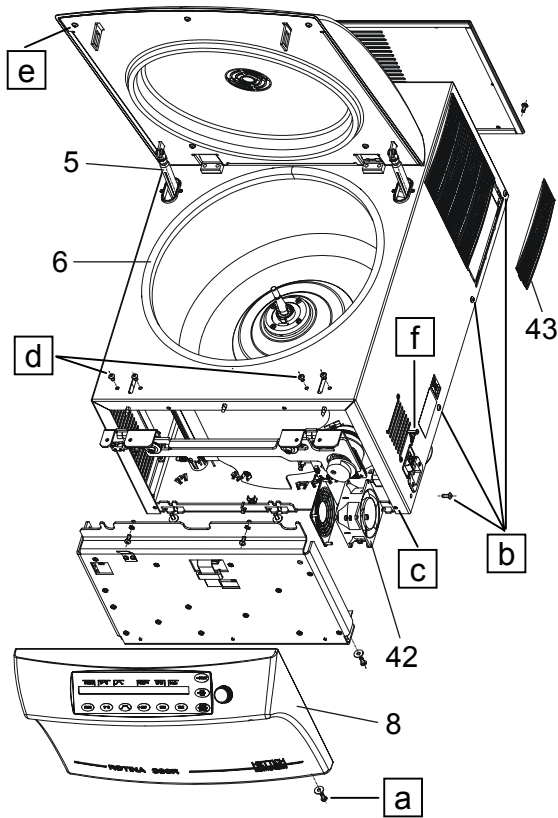

Fig. 7
- Unscrew the 3 screws (pg. 78, Fig. 3, a ; pg. 79, Fig. 7, a) on the lower part of the front panel.
- Unscrew the fastening screws of the upper part of the centrifuge housing. 4 screws (pg. 78, Fig. 3, b ; pg. 79, Fig. 7, b) each on the left and right side of the upper part of the housing and 1 screw (pg. 78, Fig. 3, c ; pg. 79, Fig. 7, c) each left and right on the front of the upper part of the centrifuge housing.
- Unscrew the two screws (pg. 78, Fig. 3, d ; pg. 79, Fig. 7, d) each on the left and right lid lock on the upper part of the centrifuge housing and remove the lid lock.